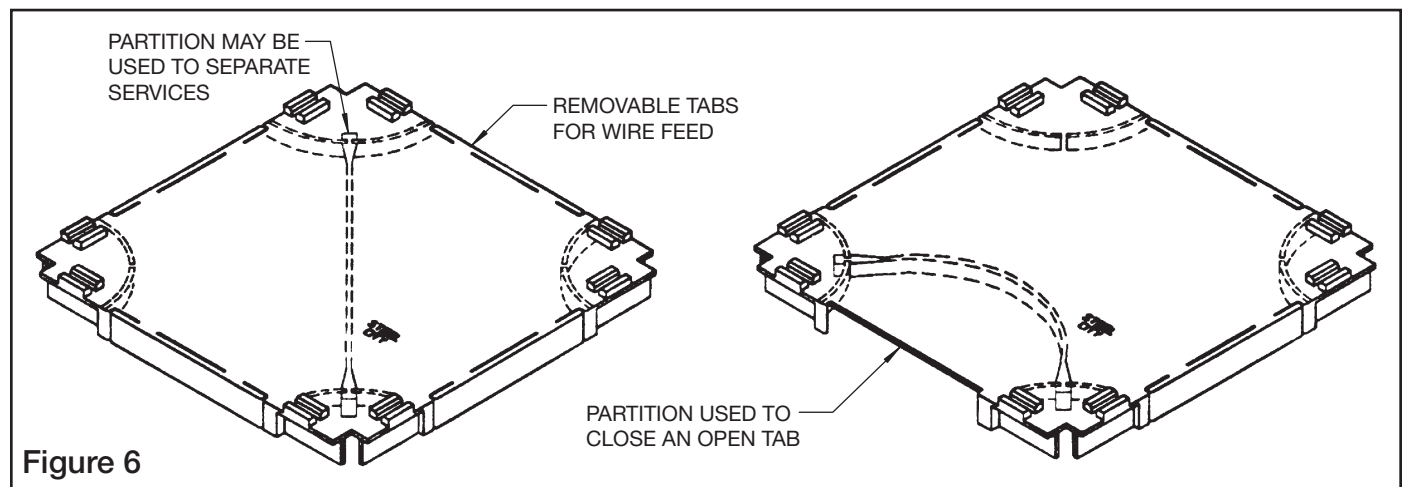

Figure 6
10. Place non-metallic tunnel in box on top of separate services by removing selected tabs for feed through. Use the snap-in partition (step 4) to isolate low power service or to close an open tab. See figure 6.